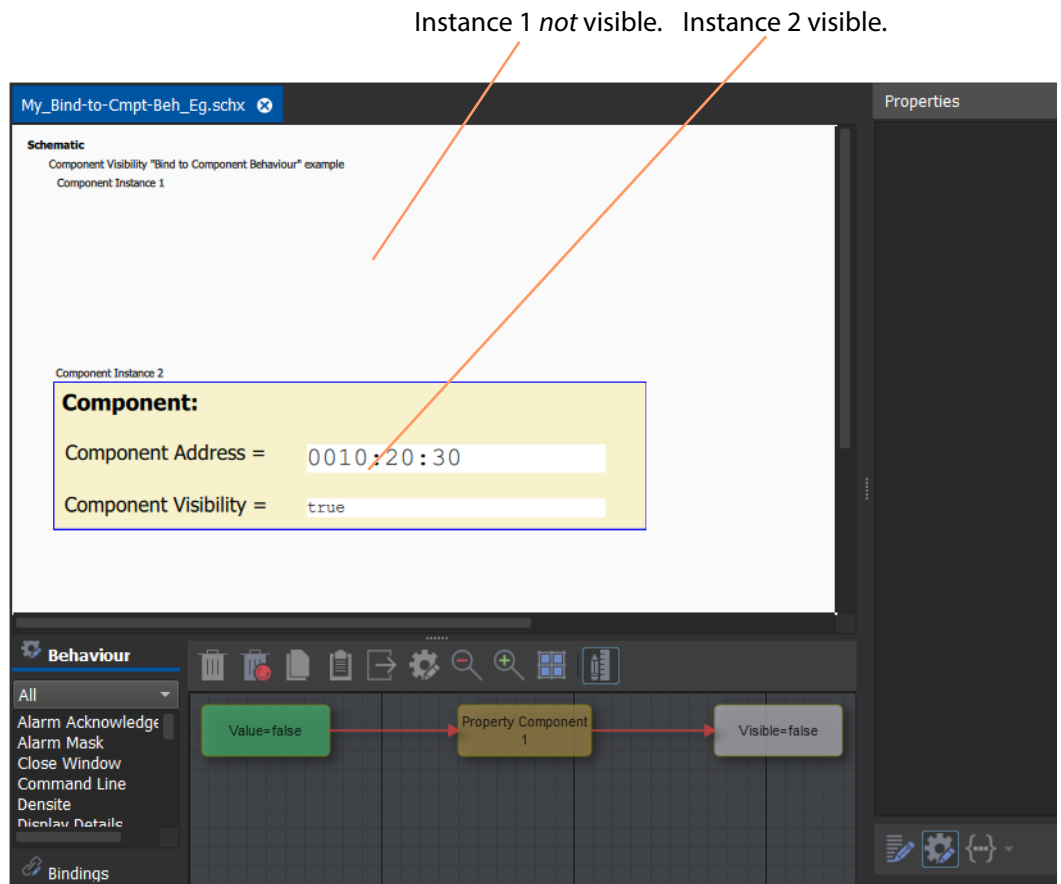

Fig. 4-51: Exercising Screen.
- 2 The settings of Figure 4-50(a and b) result in the first instance of the component not being shown because its RollCall address is invalid. See Figure 4-51.